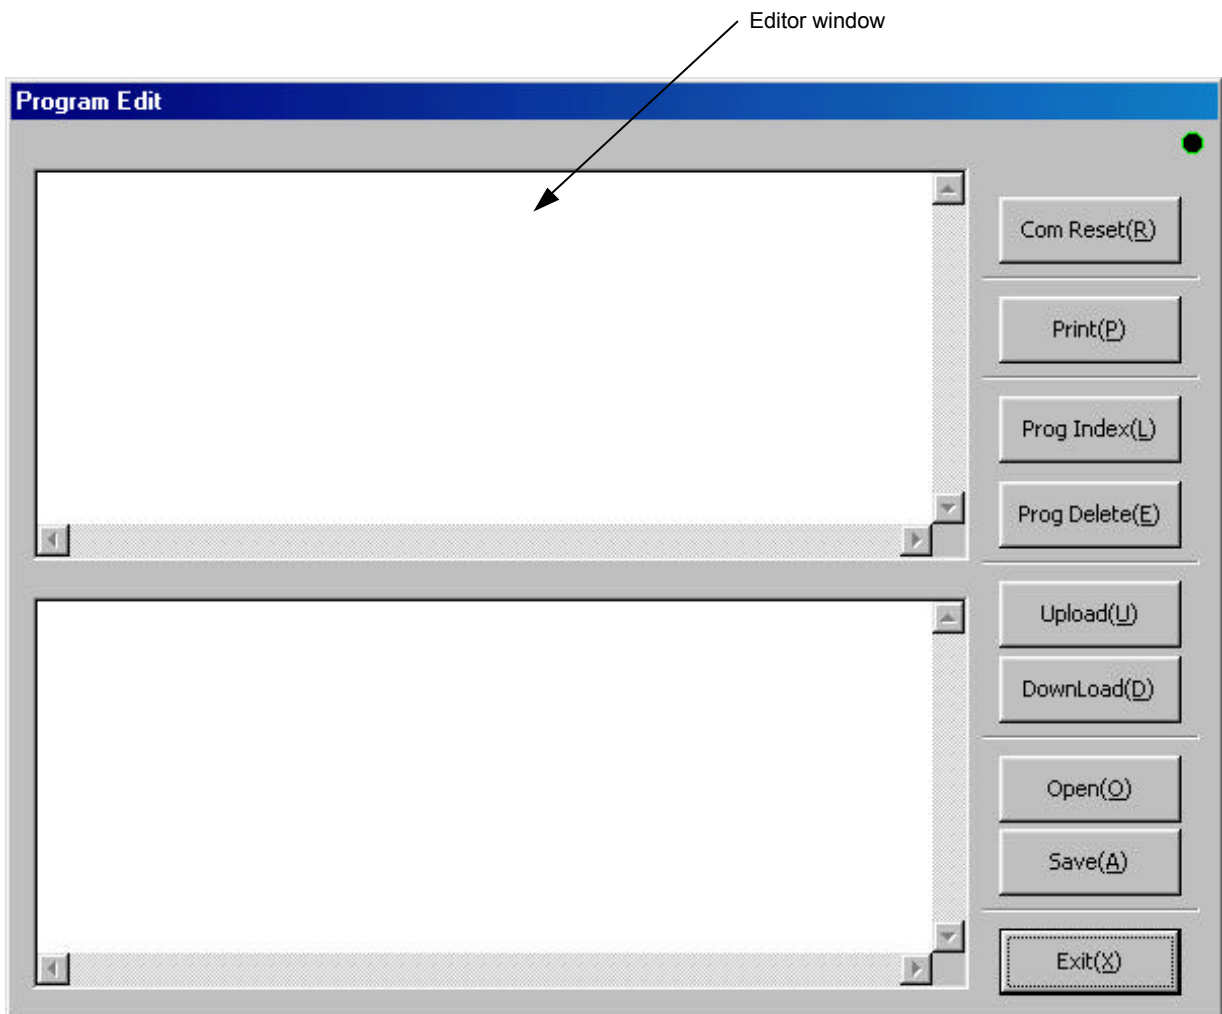

Figure 7.33 "Program Edit" dialog box
Click *"Edit (E)"* in the "Program Manager" menu to display the "Program Edit" dialog box (see Figure 7.33).